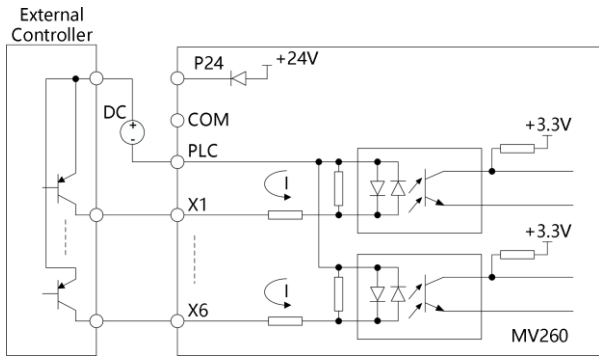

Fig.3-16 The drain connecting mode when using the external power supply
④ The drain connecting mode when using the external power supply (Note: be sure to remove the short circuit plate between the user terminal PLC and P24) is as shown in Fig.3-16.